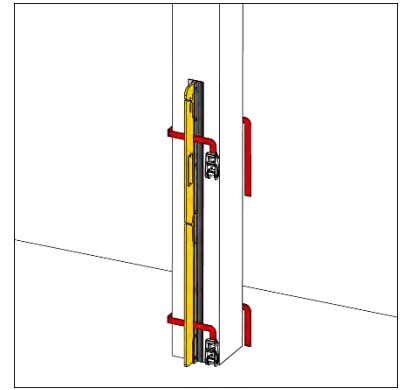

Figure 47
- i) Place the guide post against the column (Fig. 47)